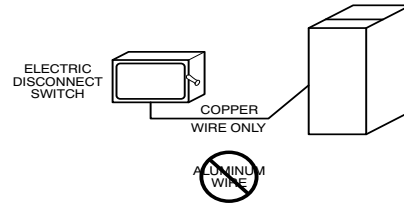

Fig. 34 – Field-Supplied External Electrical Box on Furnace Casing
Use only copper wire. See Fig. 34.
1. Drill two (2) 1/8-in. (3 mm) pilot holes through the dimples in the furnace casing near the 7/8-in. knockout or plug on the side of the casing. Do not remove the knockout or plug in the side of the casing.
9. Connect field power and neutral leads to furnace power leads inside the external electrical box as shown in Fig. 34.